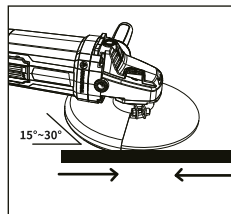

Fig 7
- 2.Generally, it is recommended to keep the grinding and cutting part of the wheel and disc within a range of 15 to 30 degrees relative to the surface of the processing object. (Fig 7)